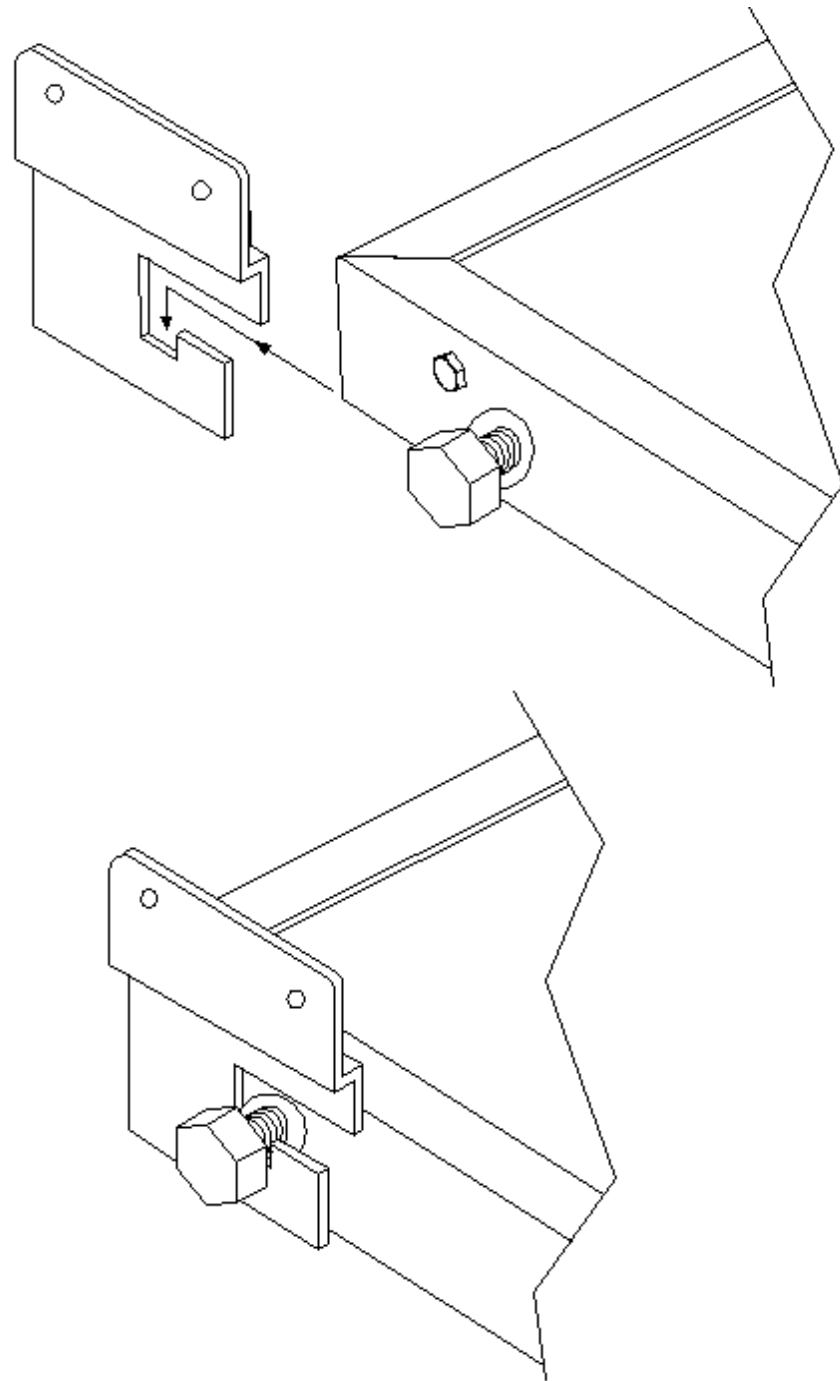

Figure 16.
6. Place the rest bench into positions by situating the bolts into the slot in the front of the rest bench brackets and pushing toward the back of the slot until you feel the bolts drop into the bottom of the slot as shown on Figure 16.